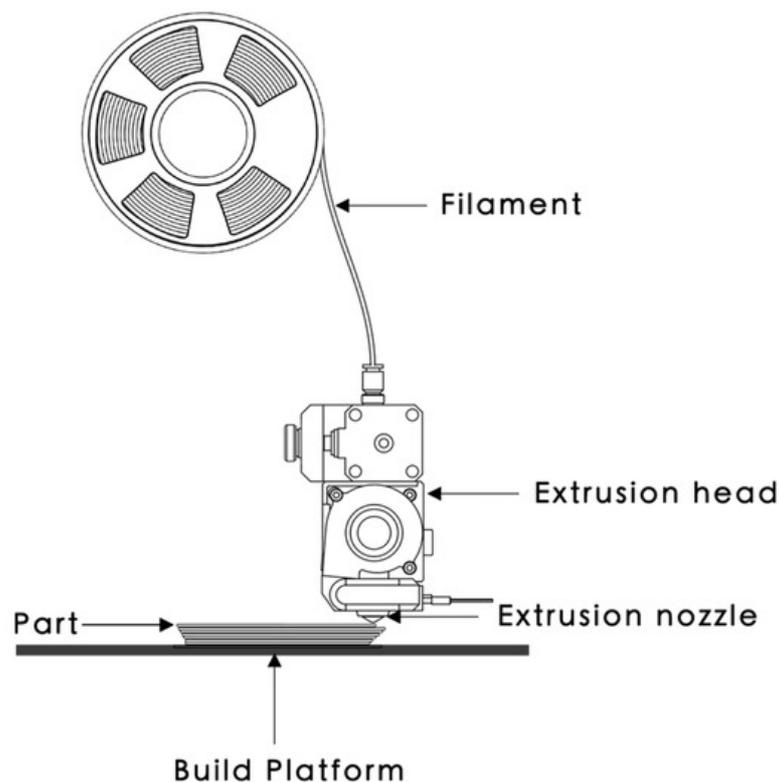

Figure 1. The material extrusion (ME) process.
Material extrusion (ME) is the second most popular form of additive manufacturing (AM) process with 844,800 and 499,500 searches on Google as well as Google Scholar, respectively, after Powder Bed Fusion that has been searched 578,000 and 26,820,000 times, respectively. The term 'ME' was commonly searched together with 'Fused Deposition Modelling' and 'Fused Filament Fabrication'. These three terms refer to the same AM process of additively building up material by selectively dispensing through a nozzle or orifice [1]. The technology uses material from a spool of filament that is loaded into the printer, melted above its glass transition temperature (T_g) for amorphous polymers and above its melt temperature (T_m) for semi crystalline polymers to be selectively dispensed through the heated extrusion nozzle and deposited onto the build platform at a predetermined location (Figure 1) [2].